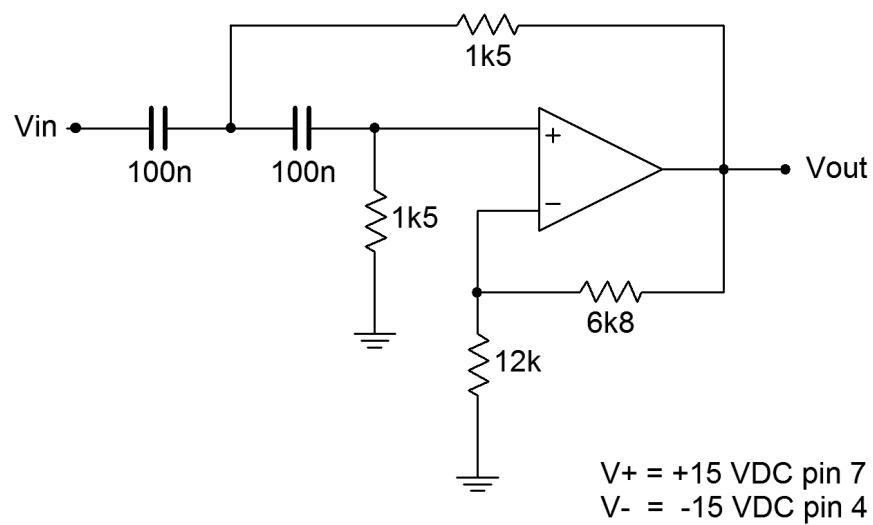

Figure 2
7. The circuit of Figure 2 is a second order high pass filter. Calculate and record the corner frequency ( $f_l$ ) and mid-band voltage gain in Table 3.
8. Assemble the circuit of Figure 2.